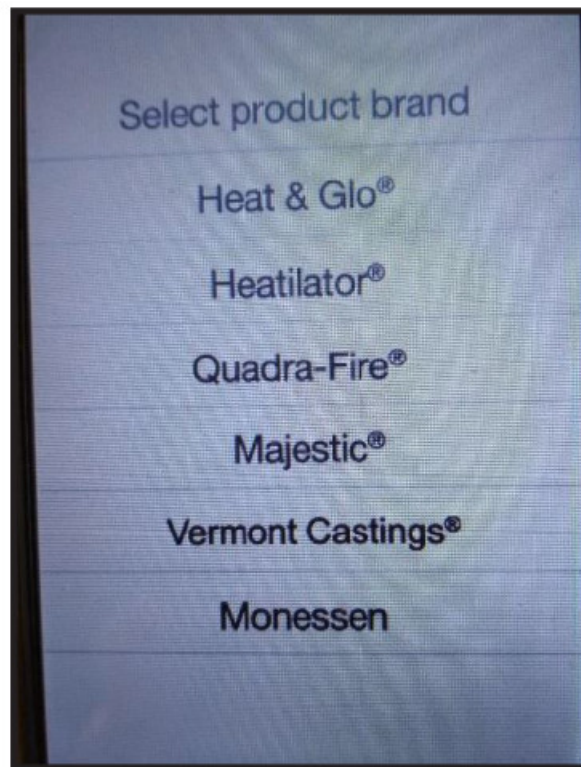

Figure 6 IFT2-RC450 Branding Screen
4. Select your choice of product brand from the list on the RC450 screen as shown in Figure 6.